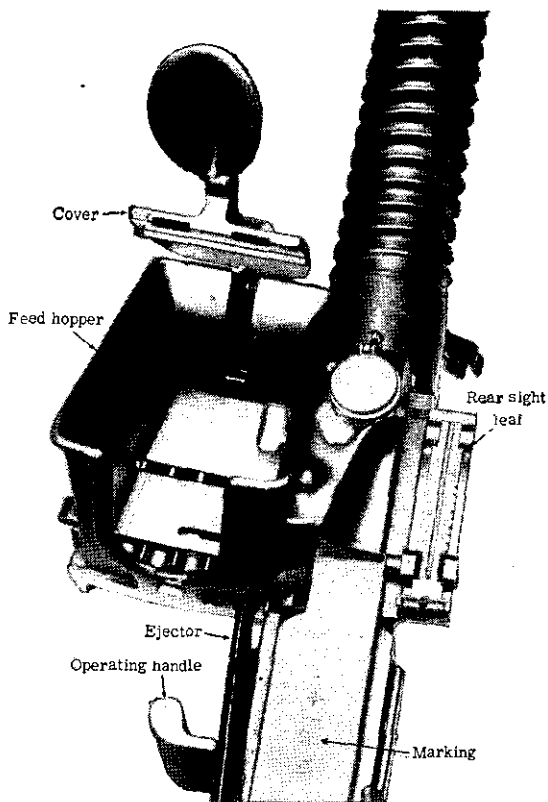

Figure 57.—Close-up of feed hopper (empty) of Model 11 (1922) 6.5-mm light machine gun.
(1) The feed hopper (figs. 57 and 58) by which 30 rounds are loaded, consisting of six 5-round clips of rifle cartridges placed one on top of the other.
(2) The cutout section of the shoulder stock.
(3) The front and rear sights offset to the right.
(4) The marking $+一$ 年式 which is on top of the receiver. (This marking, which is read *Juichinen Shiki* from left to right,² means "11th year model.")